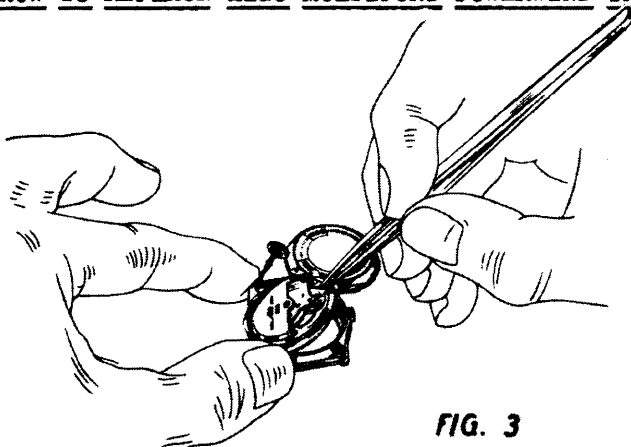

FIG. 3
1. Hold and insert movement into the case opposite stem hole (Fig. 3) under the bent ring of the case.